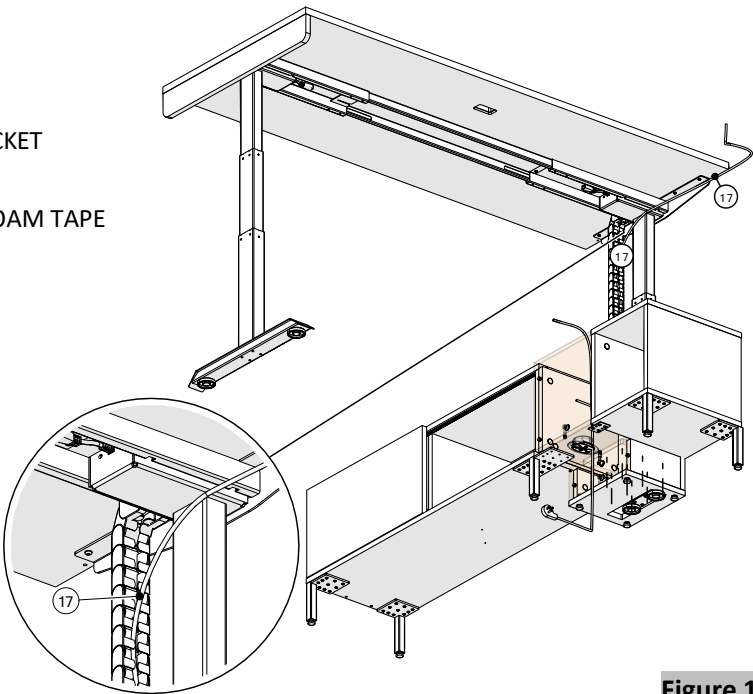

Figure 13
- 18. Lay in the wires/cable; fish in the wires/cables through the grommet of the HAT integration box, (Figure 13).